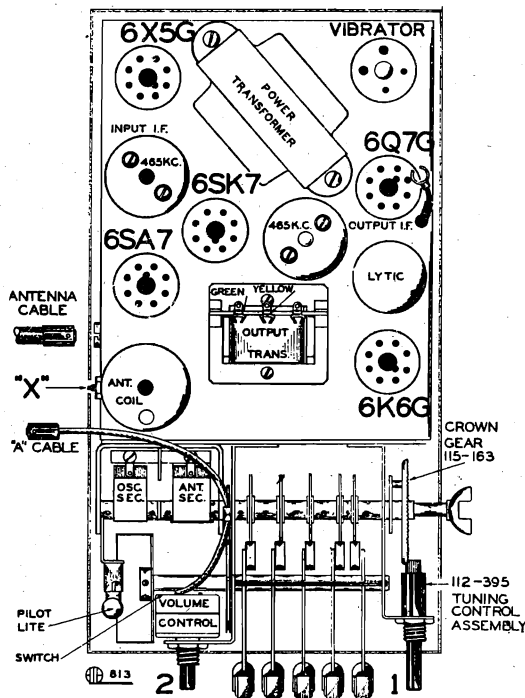

FIG. 3—TOP VIEW
3. Move test oscillator connection to grid of 6SA7 tube and adjust trimmer condensers of input I.F. transformer No. 108139 to resonance with oscillator. There are two adjustments on each and they are accessible from the top of the transformer shield and should be adjusted with an insulated screw driver. (See Fig. 3—top view, page 3.)
2. Adjust oscillator trimmer of variable condenser to resonance. (This adjustment is the rear section of the two-gang condenser—see top view, Fig. 3).
3. Shift test oscillator to 1400 K.C. and pick up signal by rotating condenser and adjust antenna trimmer (front section of gang condenser) to resonance (see top view, Fig. 3).